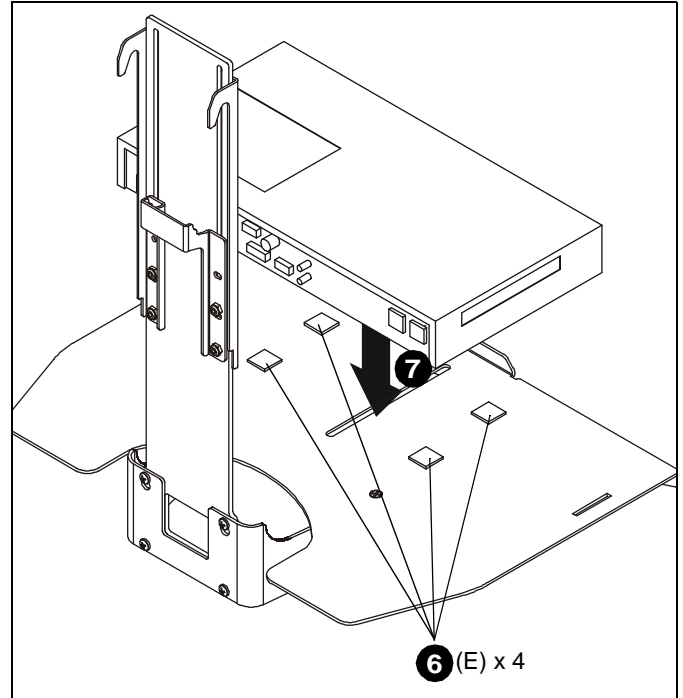

Figure 6
4. Put hook and loop squares (E) together to form four squares.
6. Attach hook and loop squares to shelf. (See Figure 6)
7. Remove paper from hook and loop squares and place component on shelf, pressing it against hook and loop squares. (See Figure 6)